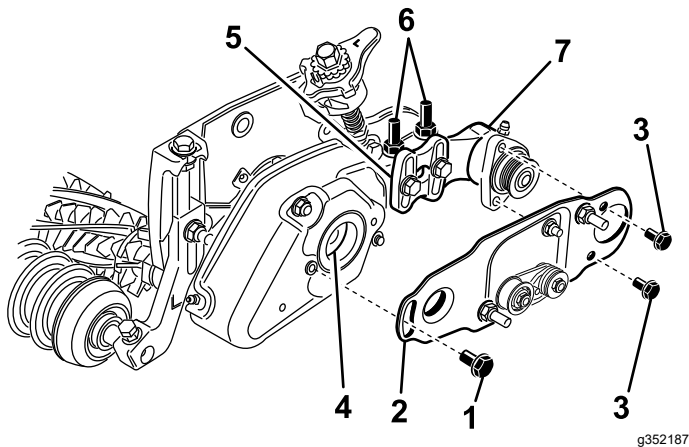

Figure 27
12. Loosen but do not remove the bolts securing the roller brush bearing housing to the roller brush mounting bracket (Figure 27).
13. Install the roller brush pivot plate (Figure 27). Ensure that the grommet stays properly seated on the cover when the protrusion on the pivot plate is inserted into the grommet on the groomer cover.
14. Apply 242 Loctite (blue) to the 2 bolts (5/16 x 5/8 inch) and use them to mount the brush plate to the roller brush bearing housing (Figure 27). Torque the bolts to 20 to 25 N-m (15 to 19 ft-lb).
- Loosen the 2 flange locknuts securing the roller brush mounting bracket to the cutting unit side plate (Figure 27).
- Rotate the roller brush bearing housing until the brush plate is parallel to the cutting unit side plate (Figure 27).
- Tighten the 2 flange locknuts securing the roller brush mounting bracket to the cutting unit side plate (Figure 27).
19. Apply 242 Loctite (blue) to the shoulder bolt (Figure 27). Secure the brush plate to the groomer cover with the shoulder bolt. (Figure 27). Torque the bolt to 20 to 25 N-m (15 to 19 ft-lb).